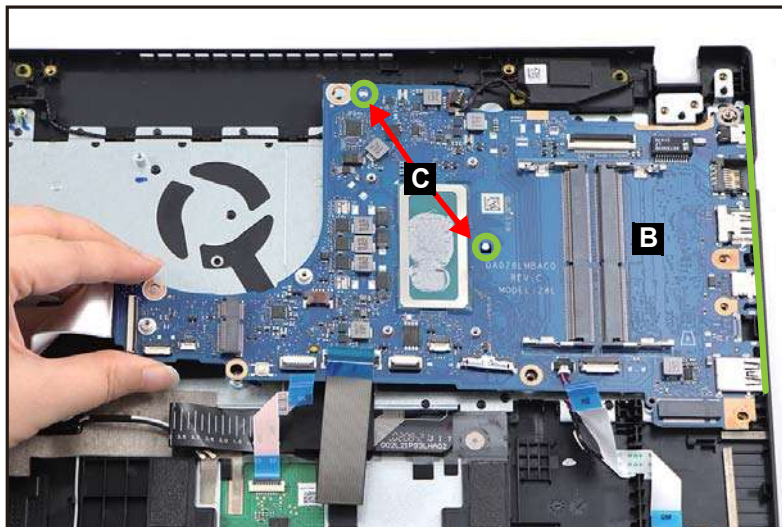

Figure 3-95. Replacing the Mainboard
2. Align and slide the I/O connectors on the mainboard (B) into their slots on the top assembly. Then place the mainboard onto its compartment until it is fully seated and secured to the guide pins (C) (Figure 3-95).